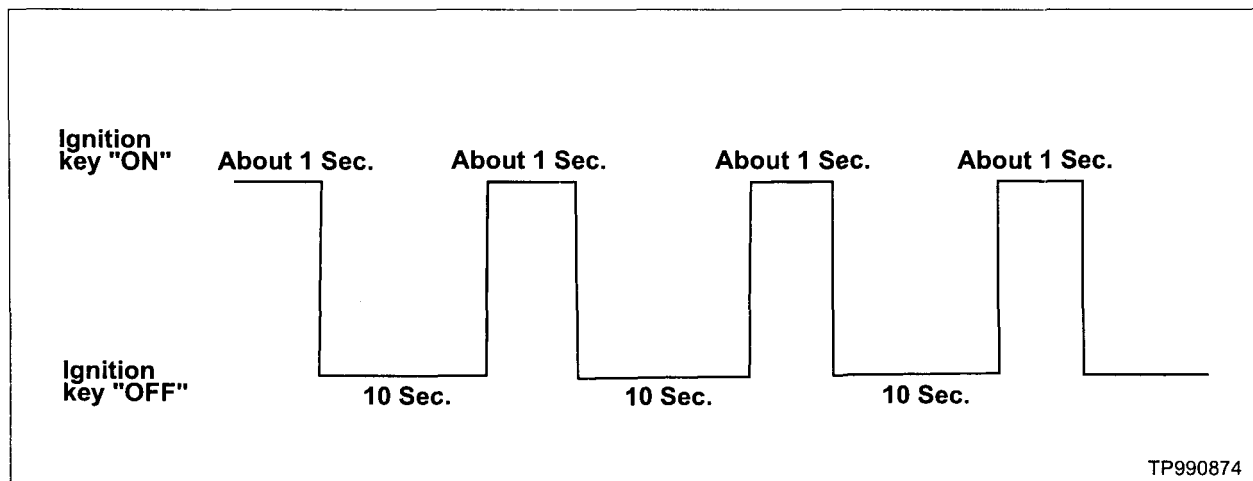

Figure 25
36. **Repeat step 35 for a total of three times (see Figure 25). This will reset ECM "self learned" values.**